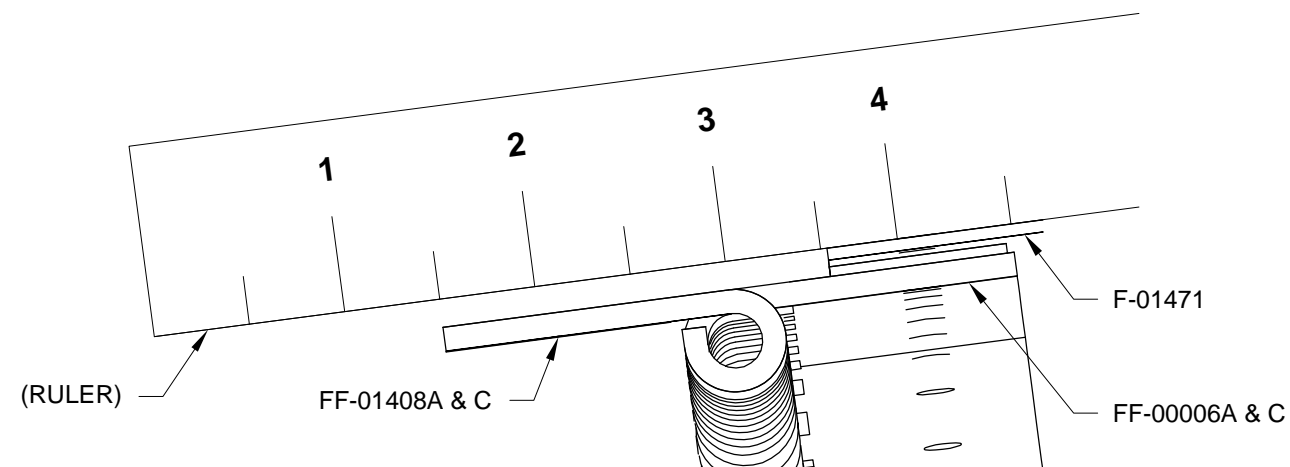

FIGURE 2: ALIGN HINGE HALVES
Step 5: Lay a ruler or similar flat item along the forward edge of the F-01471 Forward Top Skin to verify that the hinge halves are aligned along their entire length. See Figure 2.